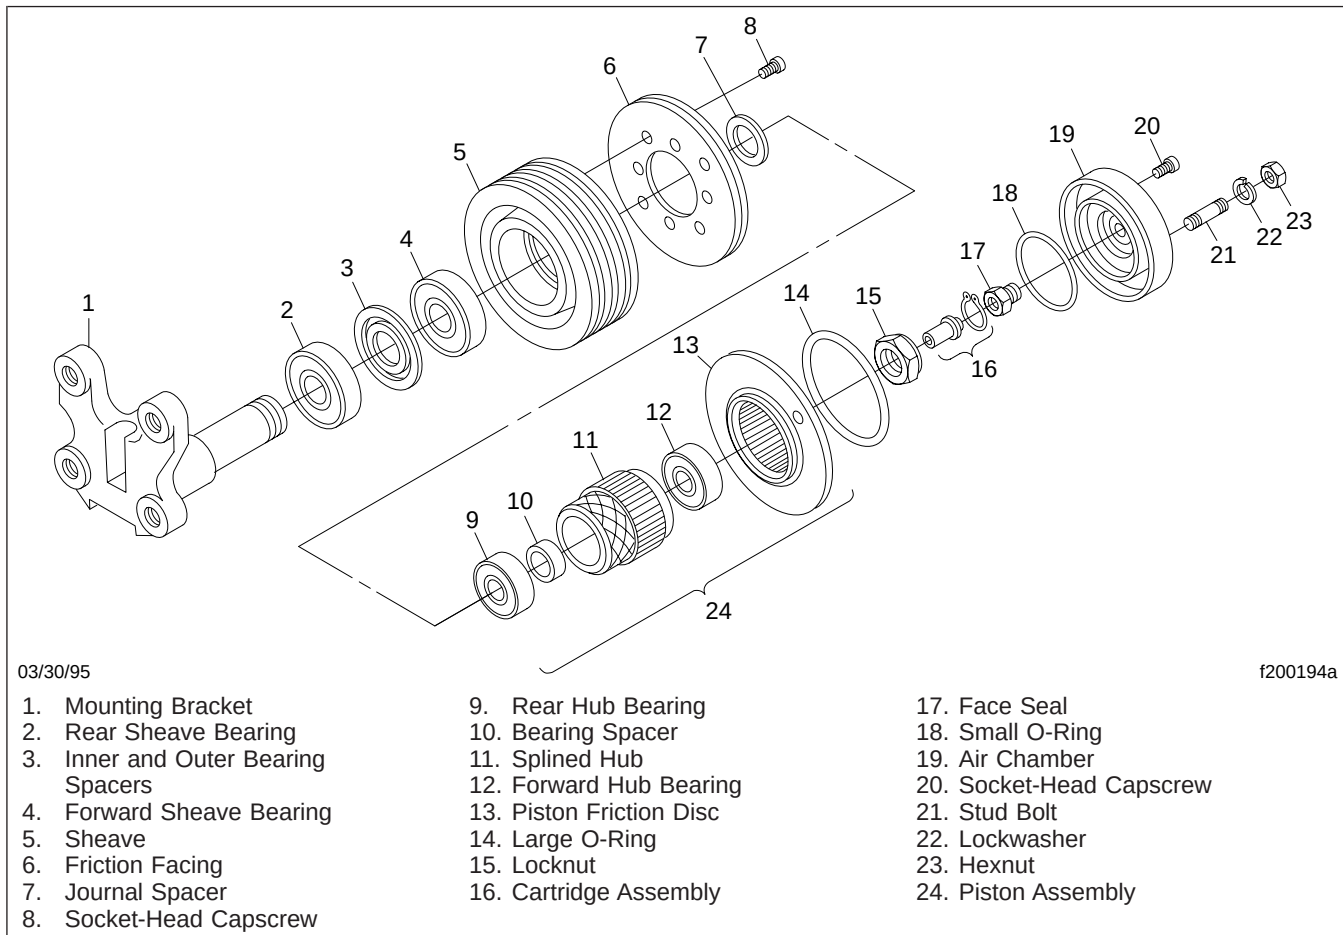

Fig. 6, Horton Advantage Fan Clutch Components
- 9.1 Check for a leak at the bleed hole on the fan pilot. Air leakage means that the cartridge assembly (**Fig. 6**, Ref. 16) or face seal (Ref. 17) is damaged.